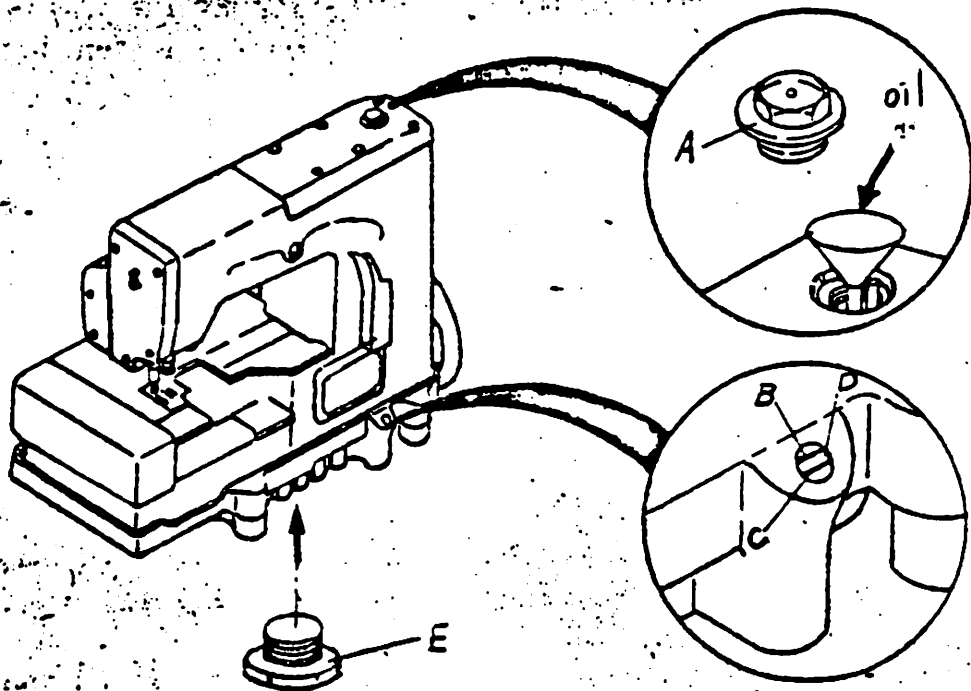

Fig 3
3. If the oil does not jet to syphone case completely, please check the oil pump mesh. Refer to Fig. 3.